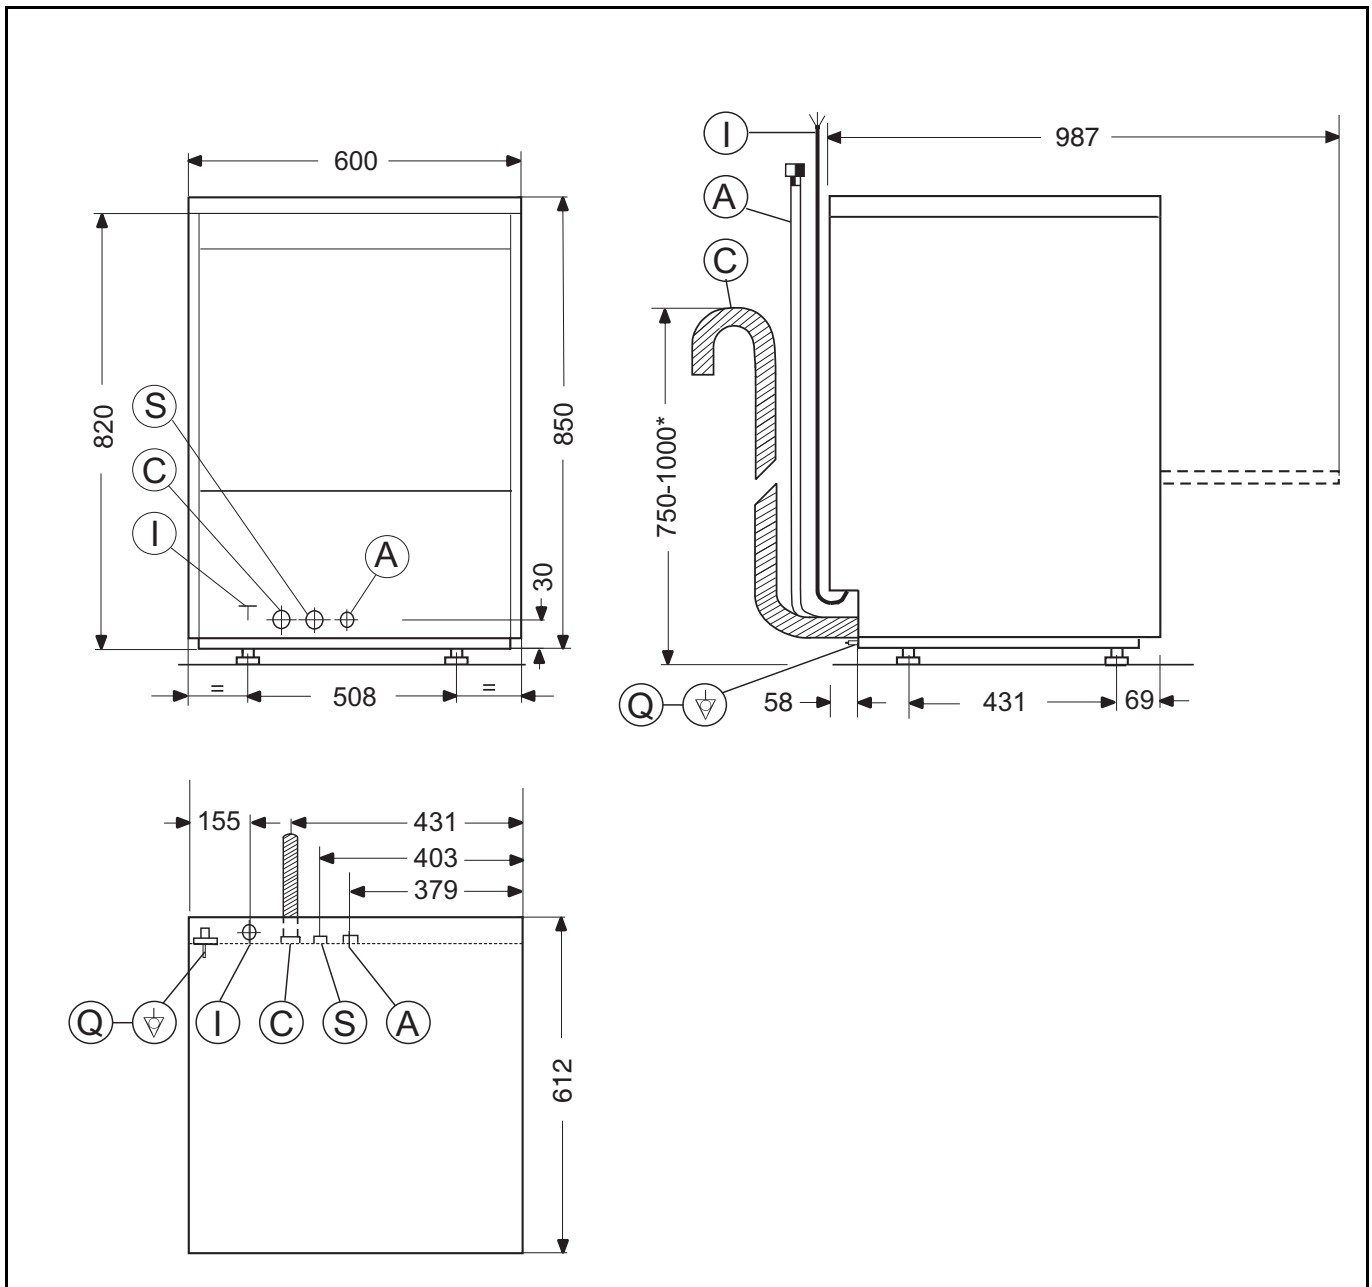
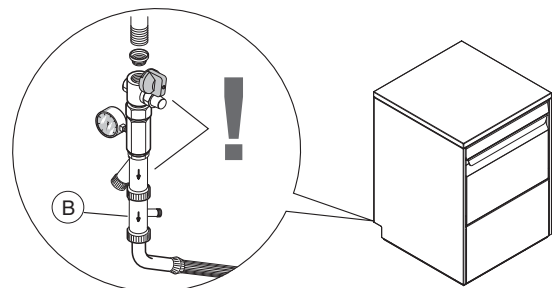

Figure 4 Installation diagram
Figure 9
Legend Figure 4
- Connect the appliance water supply pipe "A" (Figure 4) to the mains, fitting a cut-off cock, the filter provided and a pressure gauge between the appliance and the mains (Figure 9).
- In models with incorporated water softener, connect the double non-return valve "B" (Figure 9) supplied and the machine supply pipe.
connect the waste outlet pipe “C” (Figure 4) to the main drain pipe, fitting a trap, or place the outlet pipe over an “S” trap set into the floor.
- Connect the earth wire of the power supply cable to an efficient earth clamp. The appliance must also be included in a unipotential system, the connection being made through the screw “Q” (Figure 4) marked with the symbol “⏏”. The unipotential wire must have a cross section of 10 mm².